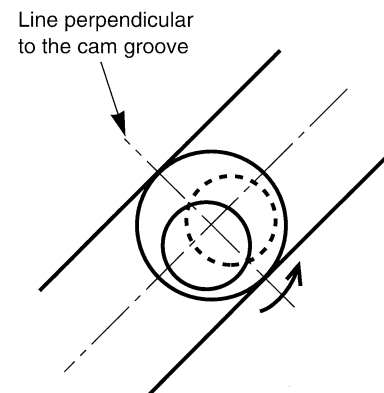

Fig. 3-20 Eccentricity Adjustment for Wide NG
9. The resolution must meet the standard. If defocus occurs at the Wide end, reset the eccentric collar to a position symmetrical with a line perpendicular to the cam groove as shown in Figure 3-20.